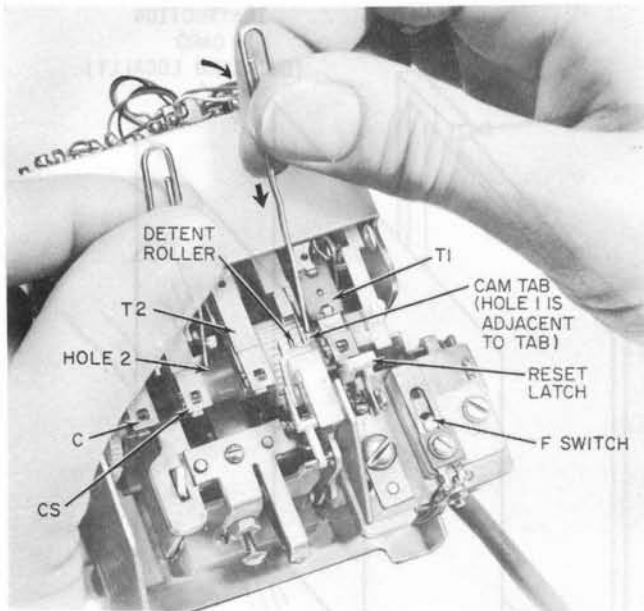

Fig. 24—Increasing Chute Totalizer Rate (Typical)
- (a) To increase the chute totalizer rate shown in Fig. 24, do the following:
- (2) Rotate the shaft about ten steps further in the direction shown in Fig. 24 until a tab on the T1 cam is accessible.
- (3) **Warning: Do not push the end of the paper clip too far through the shaft hole or it will damage the insulation of the coil located beneath the shaft. Insert a paper clip into one of the four holes indicated as hole 2 in the center of the shaft. Hold the paper clip firmly so the shaft cannot move.**
- (4) Position a second paper clip in the hole on the T1 cam indicated as hole 1 shown in Fig. 24 and rotate the cam in the direction of the curved arrow as shown.
If hole 1 in the T1 cam has been mutilated or clogged preventing use, place the paper clip against the tab as shown in Fig. 24 and push the tab in the direction of the straight arrow. One step of rotation of the T1 cam in this direction of the curved arrow shown in Fig. 24 increases the rate by 5 cents.